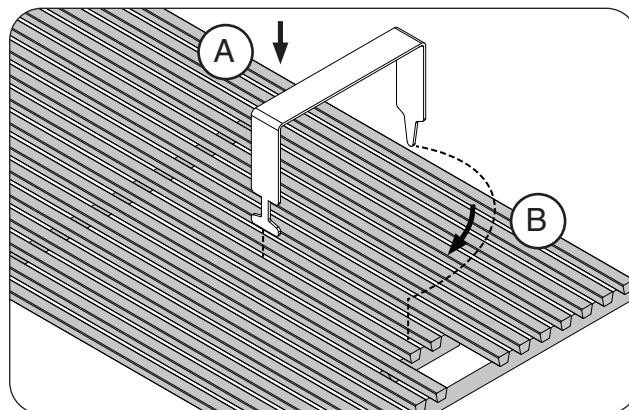
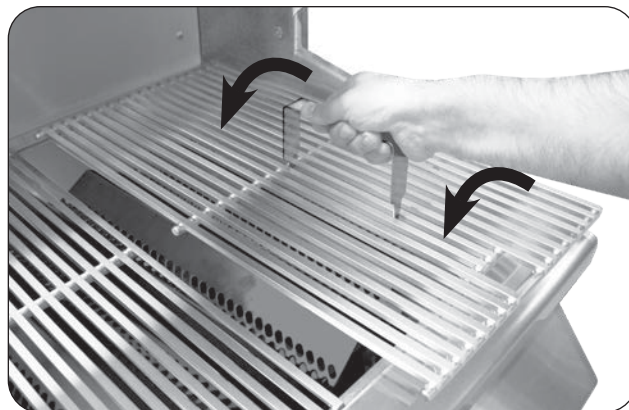

Fig. 20-2 Install cooking grids
Fig. 20-3 Install cooking grids
1. With the prongs facing downward, insert the notched-end of the lifter between two grid rods, then rotate, as shown in Fig. 20-2, A & B.
2. Insert the rear pointed-end of the lifter between the same two rods (see Fig. 20-2, B) and carefully lift the cooking grid and place onto the front and rear grid rests of the grill (see Fig. 20-3). Repeat for all other cooking grids.